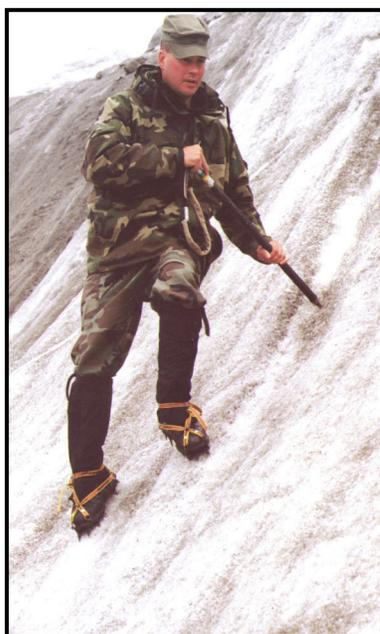

Figure 10-3. Ice ax in the cross body or port arms position.
(2) ***Cross Body Position or Port Arms Position.*** On steeper slopes the ax can be used in the port arms position, or cross body position (Figure 10-3). It is carried across the chest, upslope hand on the shaft, spike towards the slope. The head of the ax is held away from the slope with the pick to the rear in preparation for self-arrest. Ensure the leash is connected to the upslope hand, which allows the ax to be used in the hammer position on the upslope side of the climber. The spike, in this case, is used as an aid for maintaining balance.